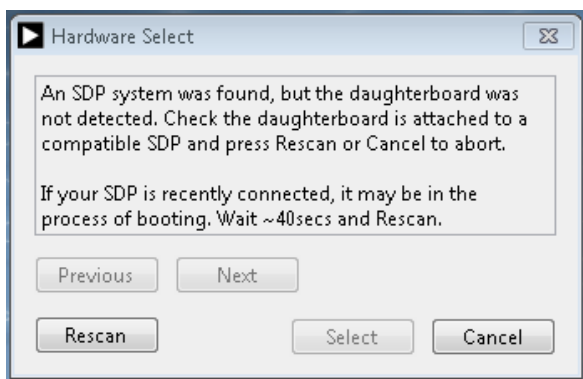

Figure 2. SDP Board to USB Port Connectivity Error Message
2. If the SDP board is not connected to the USB port when the software is launched, a connectivity error is displayed (see Figure 2). If a connectivity error is displayed, connect the evaluation board to the USB port of the PC and wait a few seconds, and then click **Rescan** and follow the instructions.